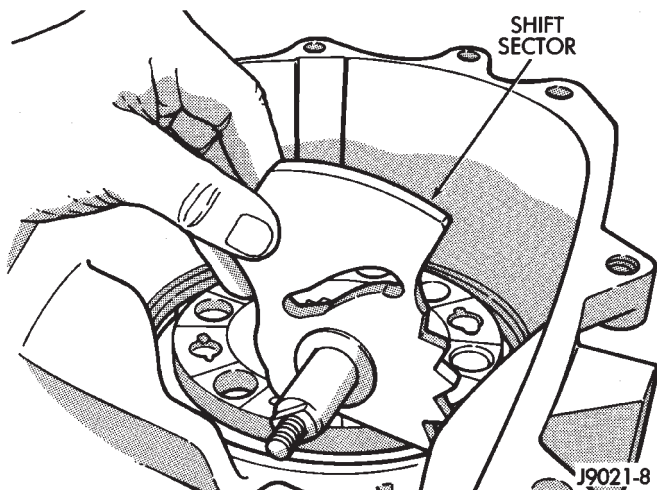

Fig. 48 Shift Sector Installation
(2) Install shift sector in the case (Fig 48).